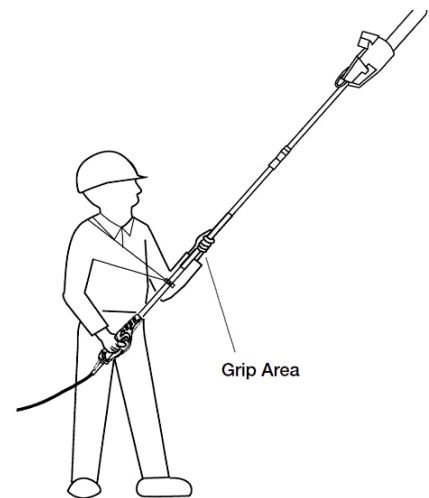

Figure 7
4. Use both hands to grip. Use designated grip areas and strap when operating pole saw. (See Figure 7) Use firm grip. Thumbs and fingers must wrap around pole saw handle and pole.